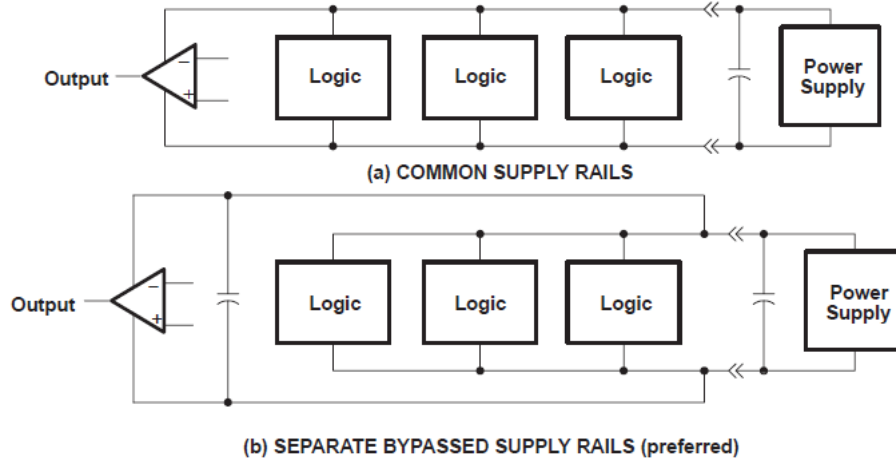

Figure 8-2. Common vs Separate Supply Rails
1. Power the linear devices from separate bypassed supply lines (see Figure 8-2); otherwise, the linear device supply rails can fluctuate due to voltage drops caused by high switching currents in the digital logic.